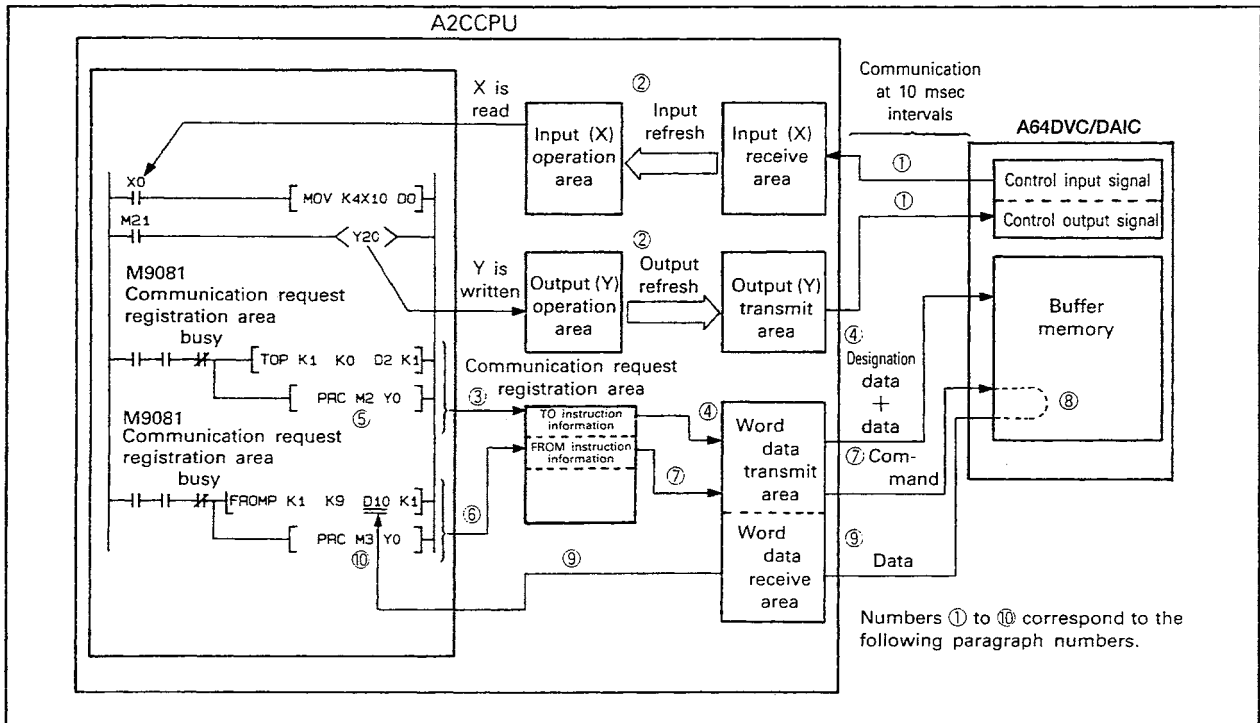

Fig. 3.1 Communication Processes
(2) Writing data to the A64DAVC/DAIC buffer memory
- ③ The TO instruction information is written to the communication request register area by the execution of the TO instruction, and registration of the TO instruction information is completed by execution of the PRC instruction. **When the transmission has started, the PLC CPU starts processing the following steps. (The PLC CPU does not wait for the response of transmission completion before starting processing the following steps.)**
- ④ By the execution of the PRC instruction, the TO instruction information stored in the communication request register area is transmitted in a few times of sending to the A64DAVC/DAIC via the word data transmit area after execution of the END instruction.
- ⑤ The communication completion flag (device M2 in Fig. 3.1) designated by the PRC instruction is turned ON for 1 scan from step 0 of the scan immediately after the response of communication completion sent from the A64DAVC/DAIC is received by the A2CCPU. Upon communication completion, the TO instruction information stored in the communication request register area is cleared.
(3) Reading data from the A64DAVC/DAIC buffer memory
- ⑥ The FROM instruction information is written to the communication request register area by the execution of the TO instruction, and registration of the FROM instruction information is completed by execution of the PRC instruction. **When the transmission has started, the PLC CPU starts processing the following steps. (The PLC CPU does not wait for the response of transmission completion before starting processing the following steps.)**
- ⑦ By the execution of the PRC instruction, the FROM instruction information stored in the communication request register area is transmitted in a few times of sending to the A64DAVC/DAIC via the word data transmit area after execution of the END instruction.
- ⑧ Upon receiving the FROM instruction information, the A64DAVC/DAIC sends data stored in the buffer memory of designated address back to the A2CCPU according to the information.
- ⑨ The read data is received by 1 word at 1 time of communication with the A64DAVC/DAIC and stored in the storage devices starting with that designated by the FROM instruction for the number of words designated.
- ⑩ The communication completion flag (device M3 in Fig. 3.1) designated by the PRC instruction is turned ON for 1 scan from step 0 of the scan immediately after the completion of storage of read data in designated devices.